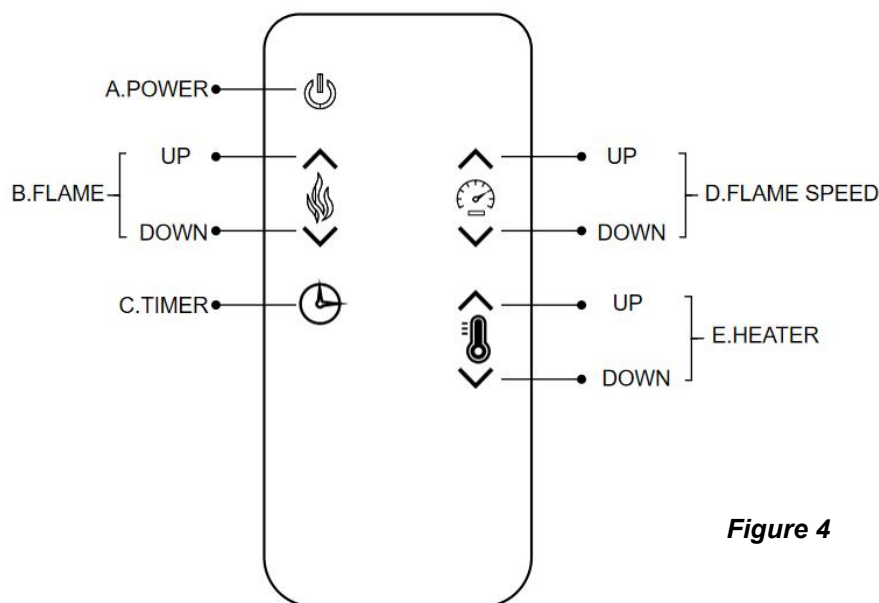

Figure 4
■ **FLAME (Figure 4.B)**
■ **FLAME SPEED (Figure 4.D)**
■ **HEATER (Figure 4.E)**